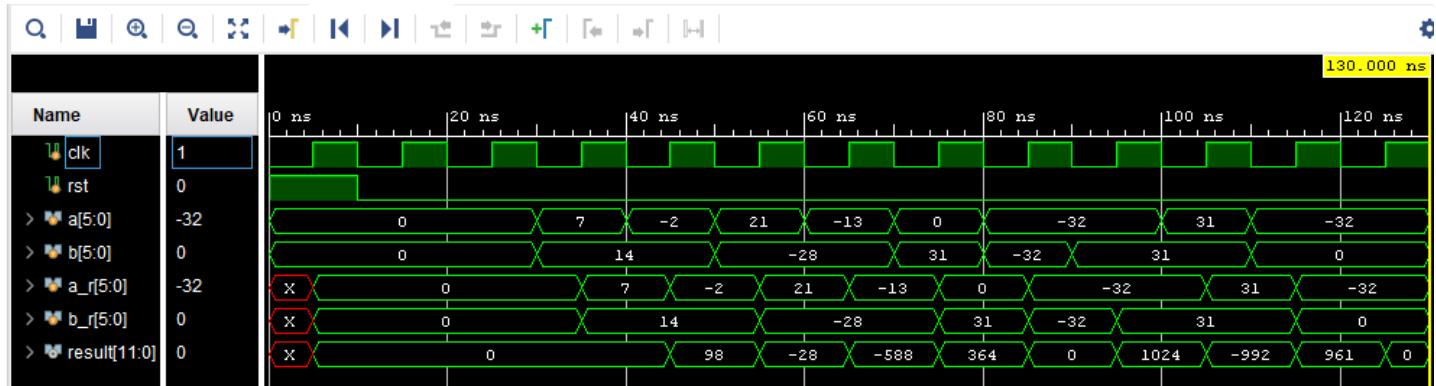

Fig. 4: Simulation waveform for non-pipelined multiplier
3. The waveform window should look like Fig 4. Note the registered signals are aligned to the clock and the result is delayed by 1 clock cycle.